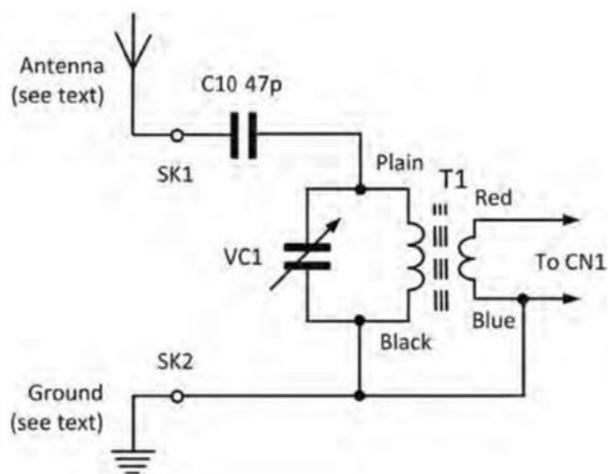

Fig.11. Tuned circuit 'off-board' components
Fig.9 shows our complete radio circuit ready for PCB conversion. Note that we have used three-pin terminal blocks in place of potentiometers VR1 and VR2 as *Circuit Wizard* does not offer an off-board option during the PCB conversion wizard process and we intend these to be case mounted. Note that the 'tuned circuit' is also to be mounted off-board (refer to Fig.11).
We incorporated three controls on to the front panel of the *Simple Radio*; power/gain, tuning and volume. The first of these is a dual switch/potentiometer device with the switch interrupting the power supply connection and the potentiometer connected as VR1. A miniature variable capacitor (Rapid part 12-0255) was used as part of the tuned circuit arrangement connected to CN1 (see Fig.11). This is a dual component, designed for use in 'superhet' radios that have both antenna and local oscillator tuned circuits. In the *Simple Radio* we only need to use the larger component, which has a maximum value of 141.6pF, but for a wider frequency coverage the two capacitors can be connected in parallel to provide a maximum value of 200pF.
- 1 47pF ceramic capacitor (C10) (see Fig.11)